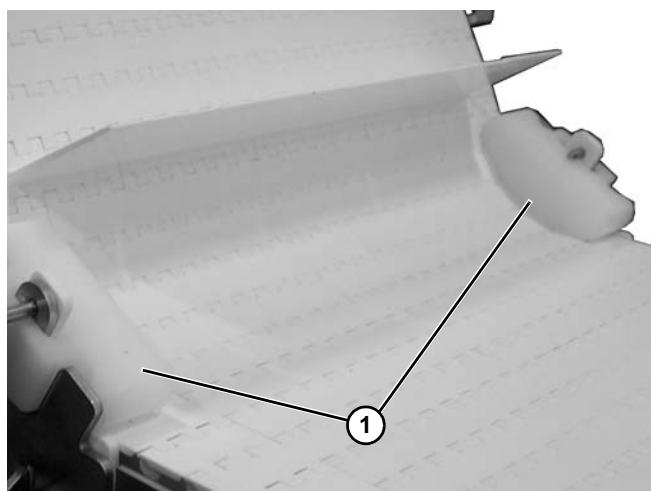

Figure 20
5. For Z-Frame conveyors, guide the belt under the return shoes (**Figure 20, item 1**) in the lower knuckles.